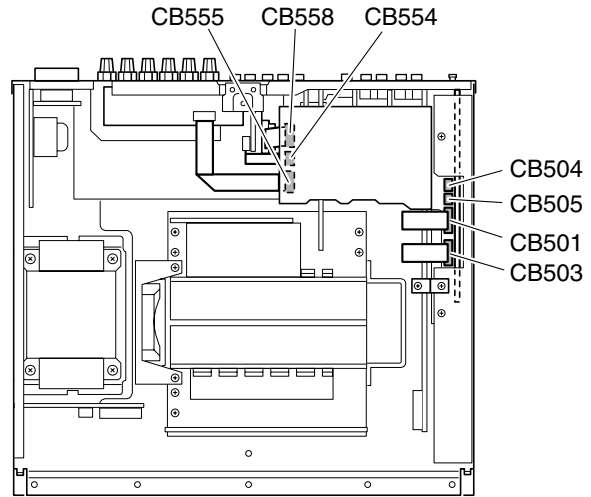

Fig. 3
- e. Remove CB501, CB503 ~ CB505. (Fig. 3)
- b. Remove CB554, CB555 and CB558. (Fig. 3)